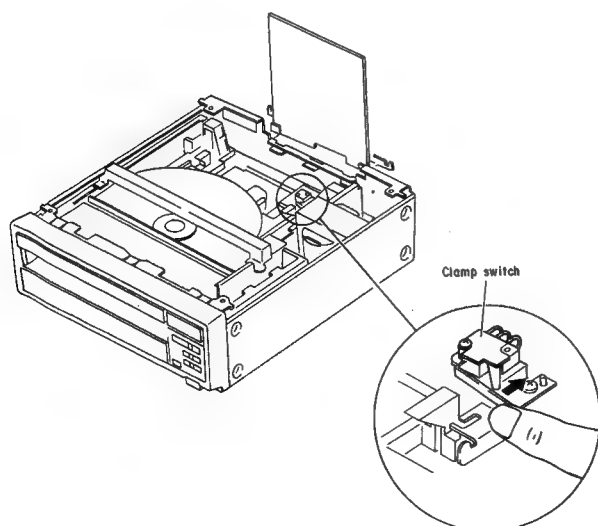

Fig. 7-9
7.6 HOW TO PLAY THE DISC WHEN THE DISC TABLE IS REMOVED (Fig. 7-9)